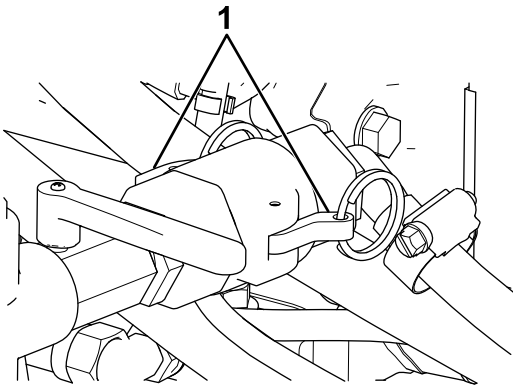

**Figure 15**
- Route the hose on the bottom of the auxiliary tank through the tank sideplates and back towards the pump valve (Figure 15).